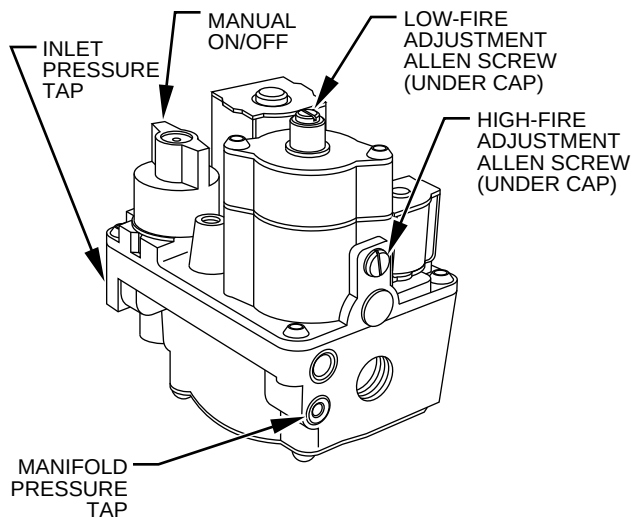

Fig. 16—Redundant Automatic Gas Control Valve
- (2.) Remove gas control regulator adjustment seal caps. (See Fig. 16.)